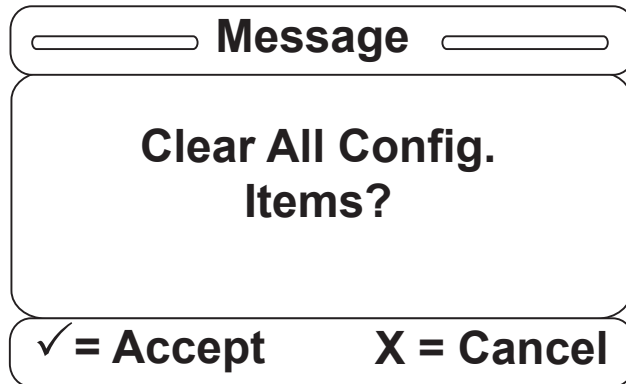

Figure S-37
- Once the "Clear All" item is selected, the confirmation screen in Figure S-37 will be displayed.